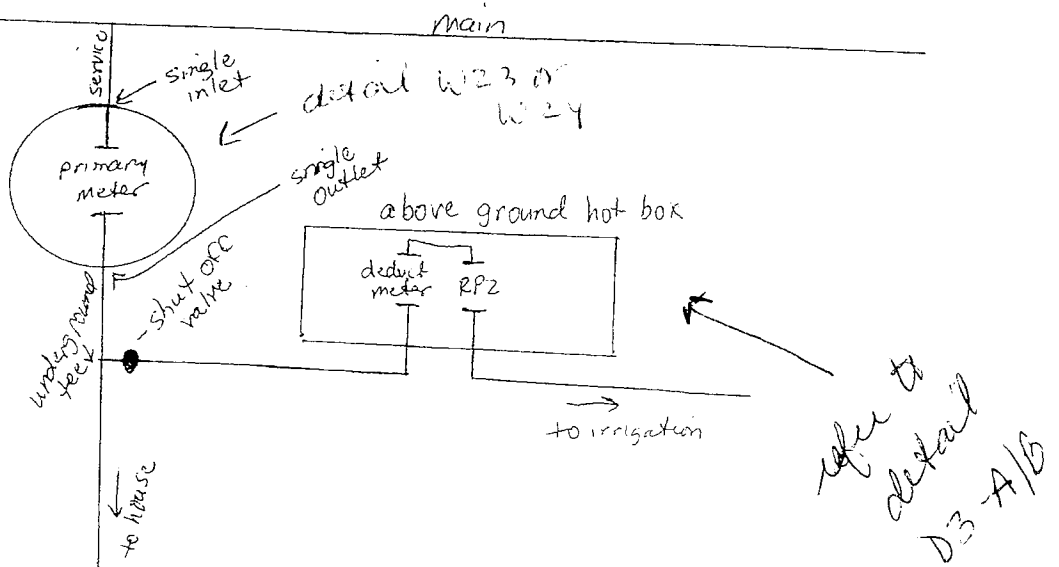

Figure 4
- primary meter must be relocated to single meter pit which will accommodate PRV and primary meter (figures 4 & 5/details W25 or W26). Cost to relocate meter to pit \$130, if not an RF meter must be upgraded, add \$88.
- single outlet from primary pit to underground tee to second meter pit (figure 4/detail D2-A/B) or hot box (figure 5/detail D3-A/B). Recommend shut off valve on irrigation side of the tee for purposes of draining irrigation system. Underground tee must be inspected by Authority personnel before backfilling
- second meter pit contains deduct meter and testable backflow device (figure 4/detail D2-A/B) or hot box contains deduct meter and RPZ backflow device or other testable device (figure 5/detail D3-A/B). Hot box should have a fitting and ball valve so that the piping can be drained.